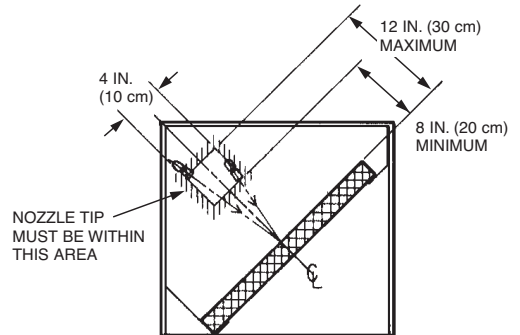

FIGURE 8
- Option 2:** The 1W nozzle must be placed perpendicular, 8-12 in. (20-30 cm) from the face of the filter and angled to the center of the filter. The nozzle tip must be within 2 in. (5 cm) from the perpendicular center line of the filter. See Figure 8.